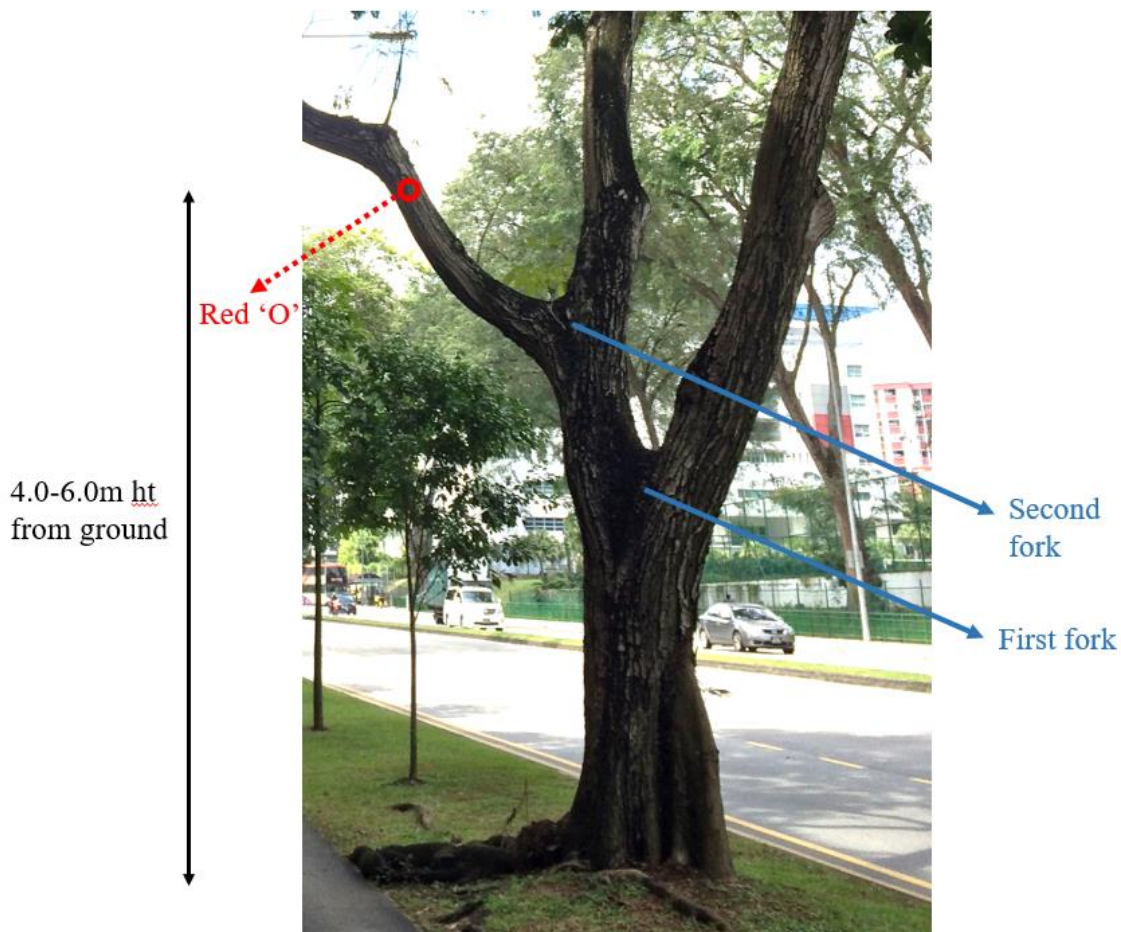

Figure 1. Example of Tree Structure.
- 4.5 Refer to Figure 1 for an example of a tree structure that will be used for the competition.